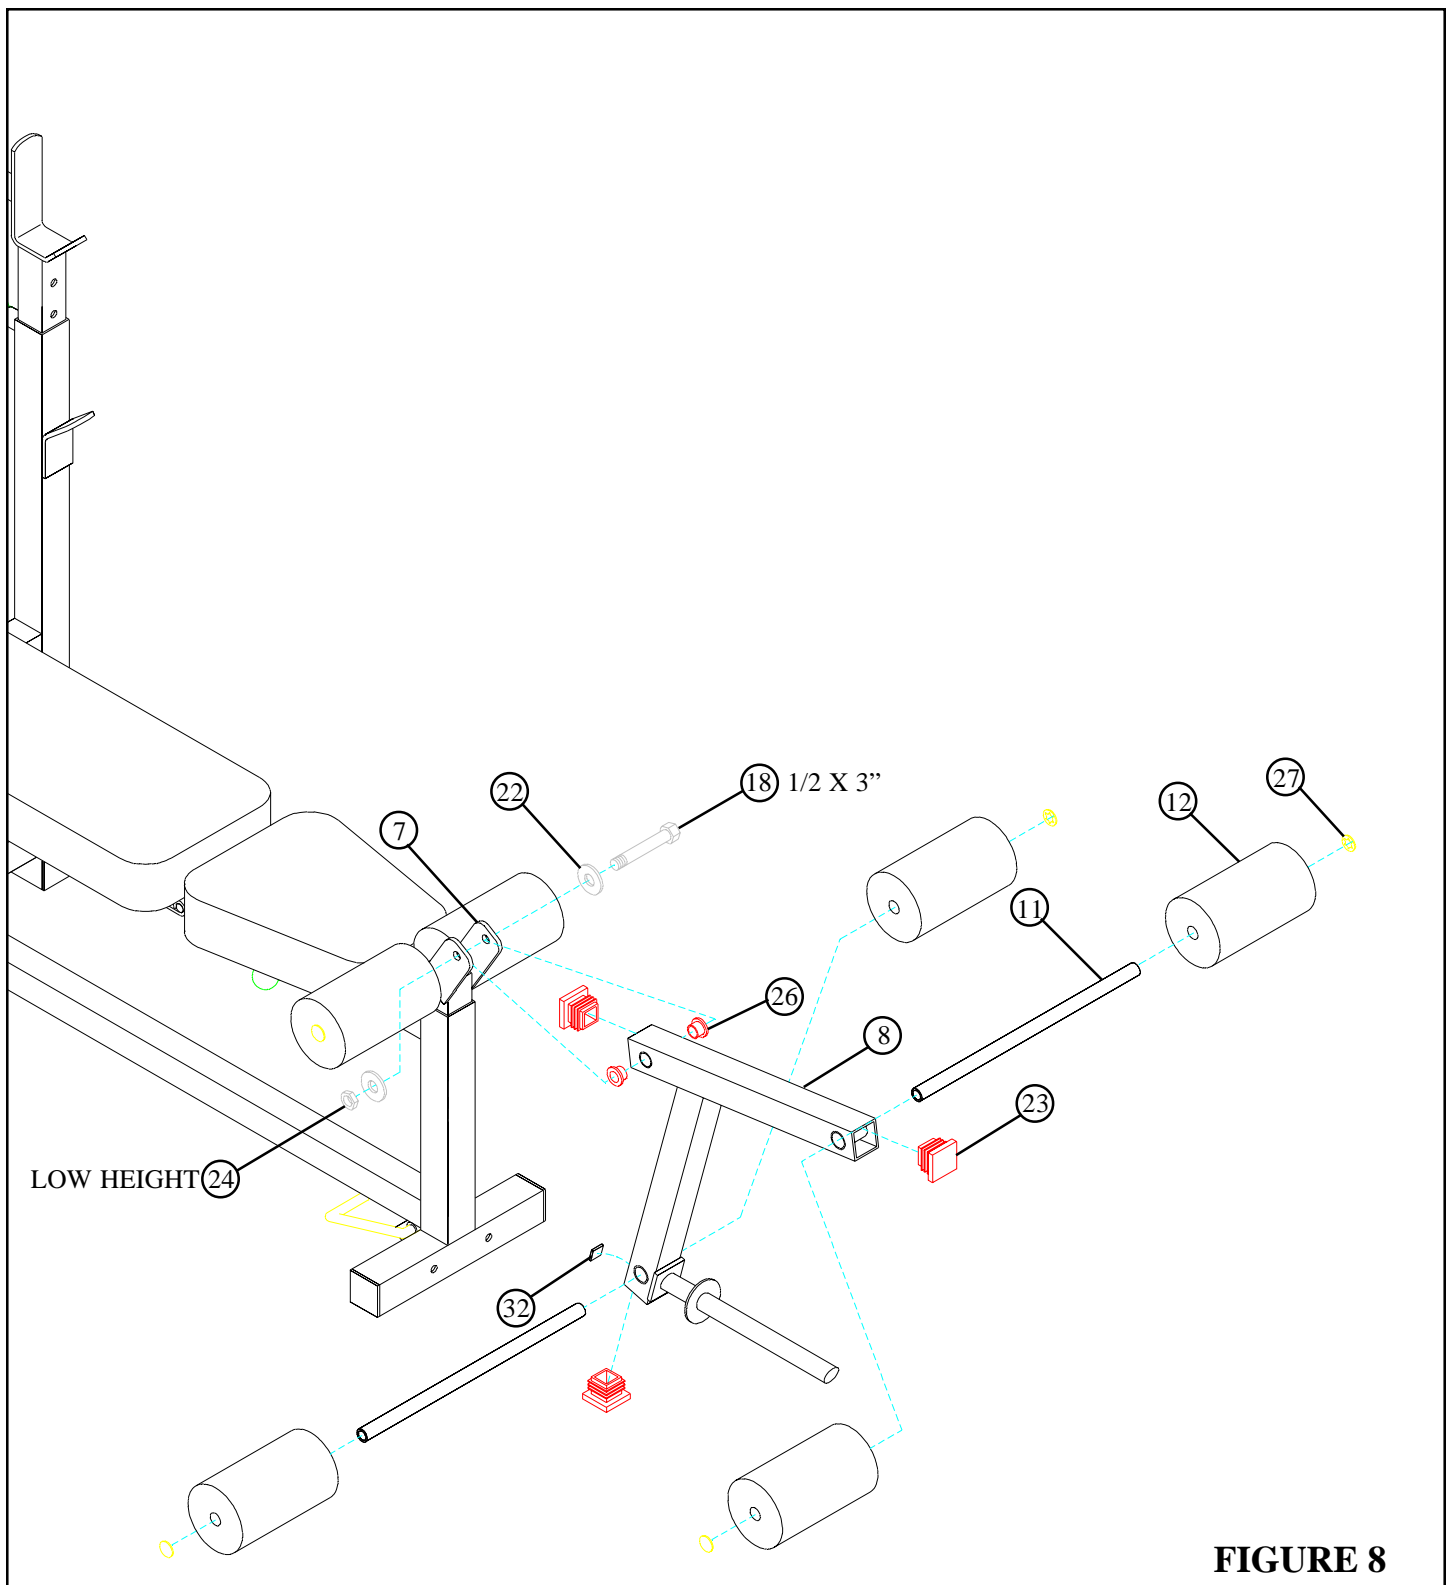

FIGURE 8
- Insert three 1-3/4" SQ. END CAPS (23) into the ends of the LEG EXTENSION (8) as shown in FIGURE 8.
- Insert two 1/2" FLANGE BEARINGS (26) into the BUSHING on the LEG EXTENSION (8) as shown in FIGURE 8.
- Assemble the LEG EXTENSION (8) to the LEG EXTENSION NECK (7) as shown in FIGURE 8, using one 1/2 X 3" BOLT (18), two 1/2" WASHERS (22), and one 1/2" LOW HEIGHT LOCK NUT (24). **(TIGHTEN THE CONNECTION ENOUGH TO REMOVE THE PLAY, YET ALLOWING THE LEG EXTENSION TO ROTATE FREELY)**
- Assemble four ROLLER PADS (12) to the LEG EXTENSION (8) as shown in FIGURE 8, using two ROLLER PAD SHAFTS (11), and four 3/4" STARLOCK COLLARS (27).
- Attach one 3/4" SQ. RUBBER BUMPER (32) to the LEG EXTENSION (8) approximately where shown in FIGURE 8.